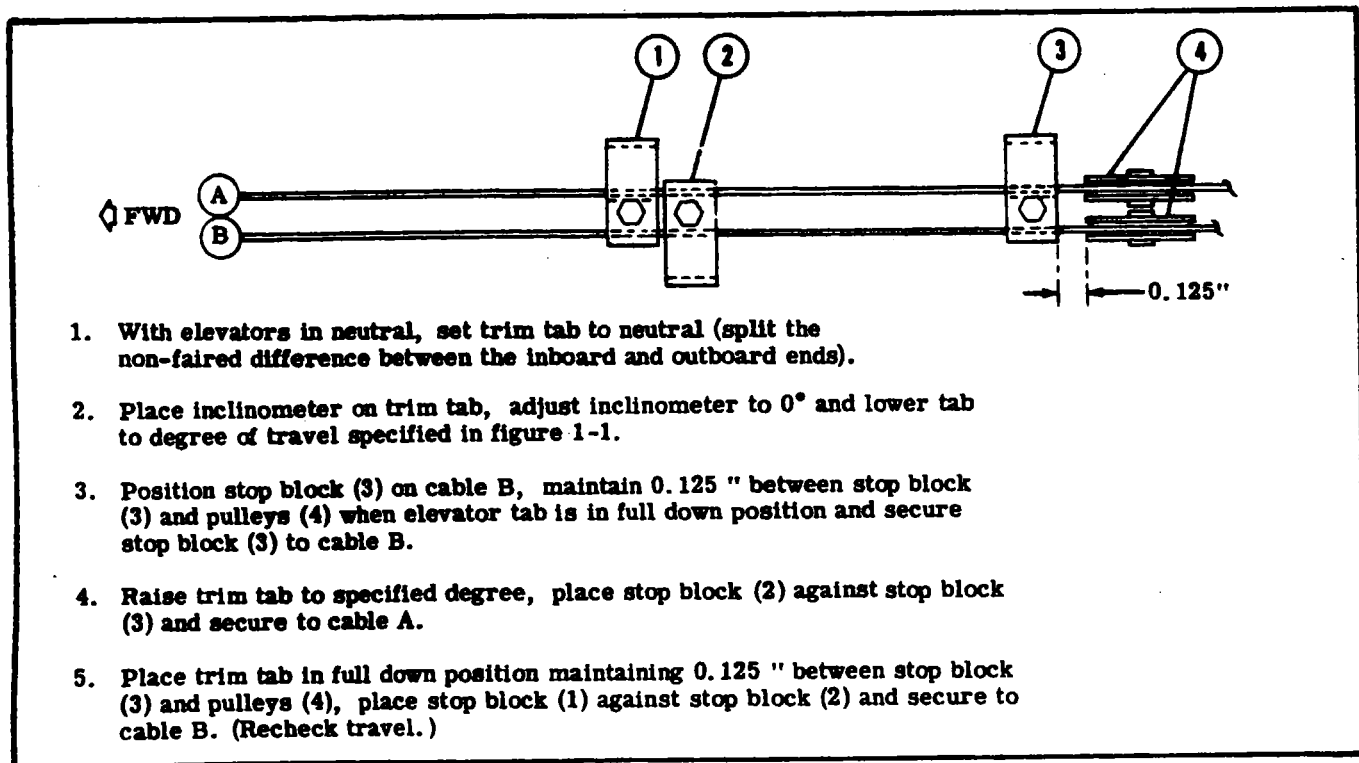

Figure 9-5. Elevator Trim Tab Travel Stop Adjustment
- i. Position stop blocks (Indexes 1, 2, and 3, figure 9-5.) as illustrated in figure 9-5 to degree of trim tab travel specified in figure 1-1.
- j. Install pedestal cover and adjust trim tab position indicator (3) as follows:
1. Rotate trim wheel (7) to place tab at 10° up position.
2. Locate position indicator (3) at the TAKE-OFF triangle as viewed from the pilot seat. (Refer to step "e." and reposition pointer if necessary.)
3. Bend position indicator (3) as required to clear pedestal cover. (Position indicator must NOT rub against pedestal cover or clear cover more than 0.125-inch maximum.)